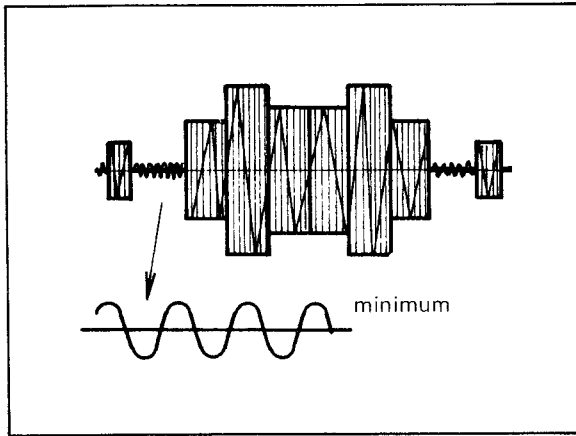

Fig. 6-34 Main converter balance adjustment
- Adjust R216 (CONV. BAL.) so that the carrier leak of TP-206 is minimum as shown in Fig. 6-34.